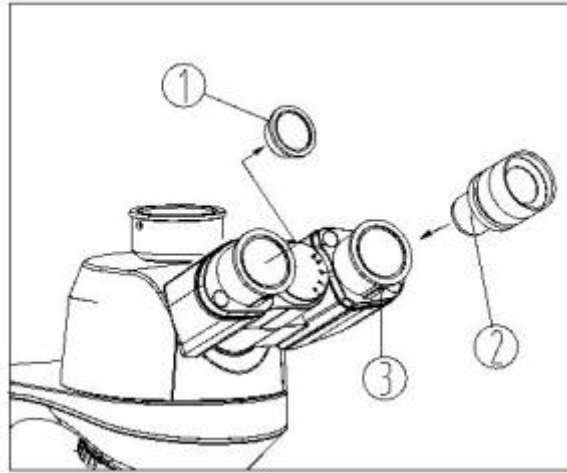

Figure 6
1. Remove the cover from the eyepiece tube①.
2. Insert the eyepiece② into the eyepiece tube until it fits securely against the surface (see Fig. 6).